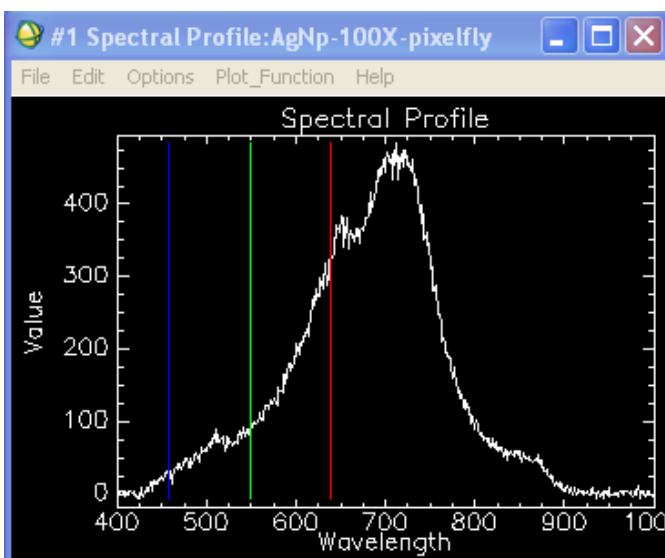
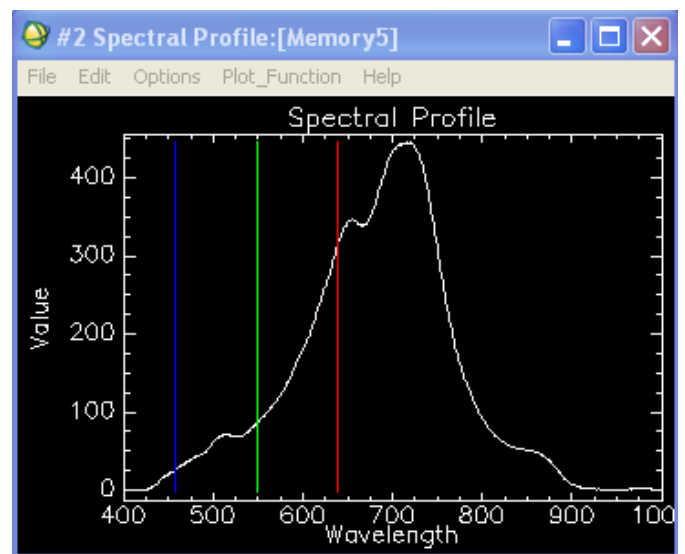

Figure 11m. Original Spectral Profile
Figure 11n. Smoothed Spectral Profile
- The spectral curves of a single pixel (Z-axis profile) are shown for the original (Figure 11m) and smoothed (Figure 11n).